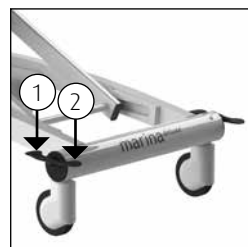

Figure 2 Wheel blocking.
- In order to take the Marina basic off the brake, the same lip on the wheel must move upwards by tapping the upper side of the lip (2) (See figure 2).
The Marina deluxe is equipped with a semi-central braking system, so you can brake 2 wheels at the same time. The semi-central control pedal for the brakes is the pedal at the head end and the foot end on both sides of the trolley (See figure 2).